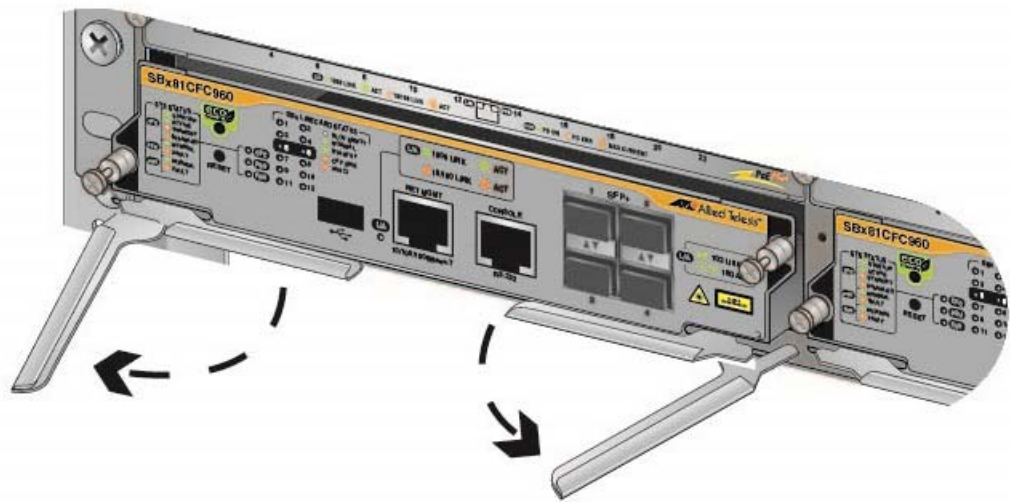

Figure 190. Pulling out the Retaining Handles on the AT-SBx81CFC960 Controller Card
4. Carefully pull out the handles of the faceplate to disconnect the controller card from the internal connector on the backplane of the chassis. Refer to Figure 190.